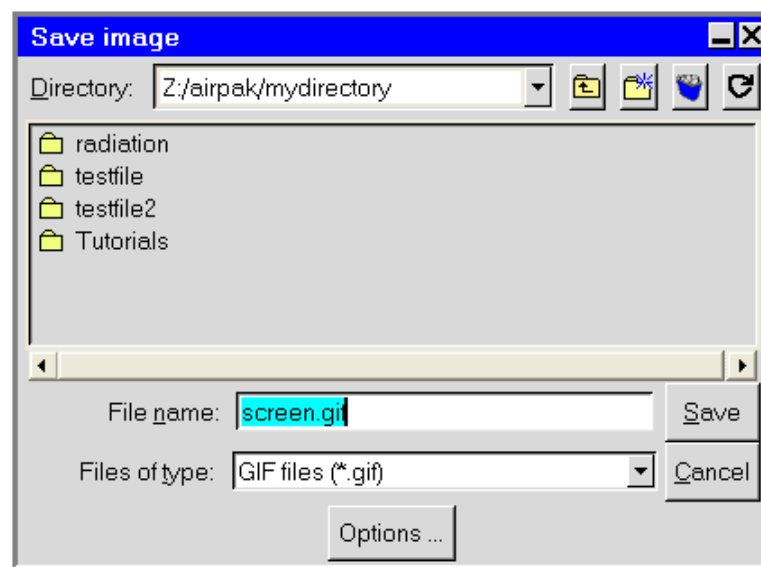
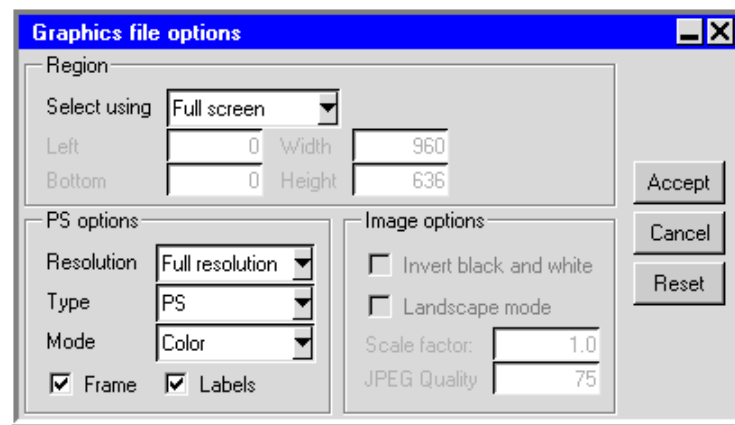

Figure 3.5.1: The Save image Panel
Figure 3.5.2: The Graphics file options Panel
To set image parameters and save image files, you will use the **Save image** panel (Figure 3.5.1). To open the **Save image** panel, select **Create image file** in the **File** menu. This allows you to generate a file or a printed copy of your model as shown in the graphics window or in a selected region of the graphics window. Note that you can also add annotations to your image file (see Section 2.1.5).
3. Click **Options...** to open the **Graphics file options** panel (Figure 3.5.2).
JPEG files (*.jpg) (Joint Photographic Experts Group) is a graphic image format. You can define the JPEG Quality of a JPEG image under Image options in the Graphics file options panel (Figure 3.5.2). The maximum value of 100 will result in slightly reduced file compression, but there will be no loss of data when the image is decompressed. Lower values will result in more file compression, but some data will not be recovered when the image is decompressed. The default value of 75 should be acceptable for most cases.
Airpak provides several options for printing PostScript files in the Graphics file options panel (Figure 3.5.2). To enable the available options for making image PostScript files, select Postscript files (*.ps) from the Files of type drop-down list in the Save image panel (Figure 3.5.1) and click Options... This opens the Graphics file options panel.